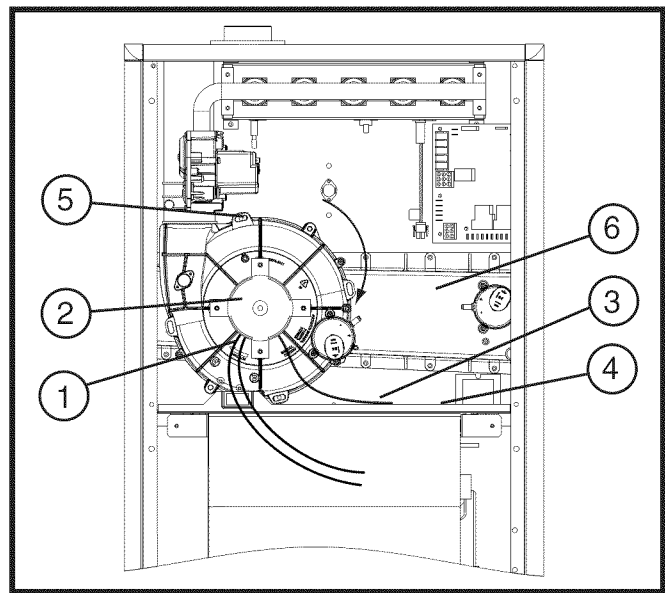

Figure 15. Inducer Assembly Rotation
1. Disconnect the electrical harness (1) from the inducer assembly (2). See Figure 15.
2. Remove the inducer assembly ground wire (3) from the blower deck (4).
3. Remove three screws (5) securing the inducer assembly (2) to the header box (6).
4. Rotate the inducer assembly (2) to its new position.
5. Secure the inducer assembly (2) to the header box (6) by reinstalling the three screws (5). If the inducer assembly is rotated to the left or right side of the furnace, use the extra screw provided in the parts package.
6. Remove the cabinet plug (7) from side of furnace and reinstall in hole on opposite side of cabinet.